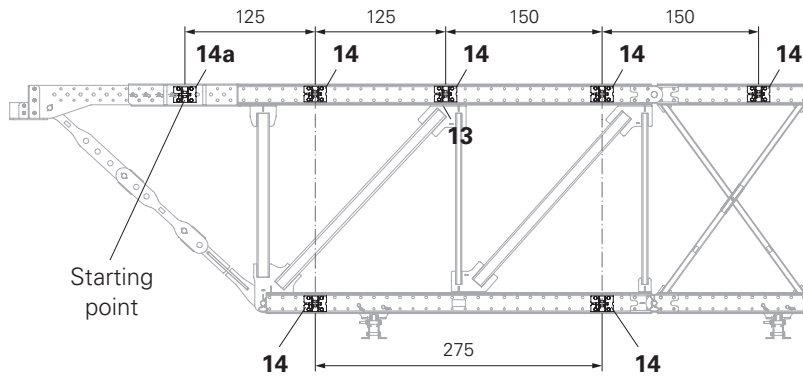

Fig. B3.02
- For Support Frames 5.25 m VRB, the distance is 125 cm or 150 cm in each case. (Fig. B3.02)